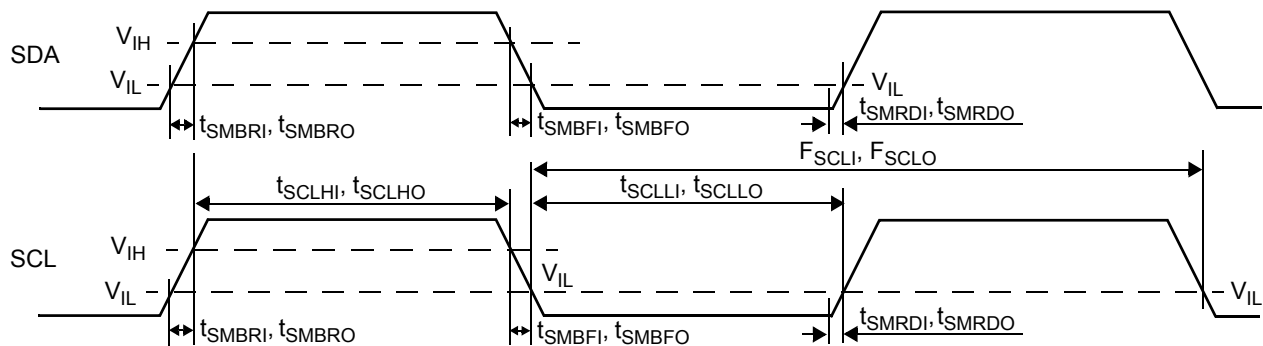
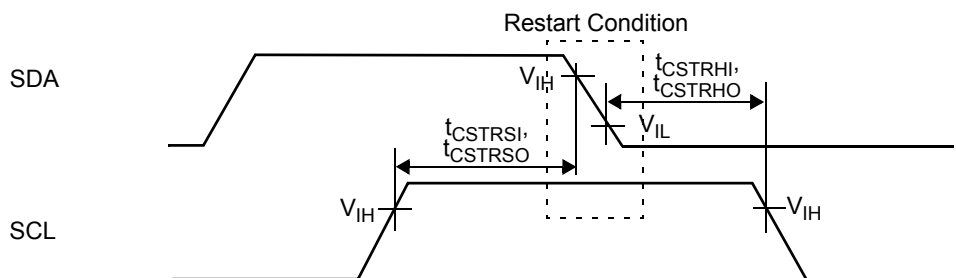

Figure 7. I2C Signal (SDA and SCL) Timing
Figure 10. I2C Restart Condition Timing
- In the preceding table and in Figure 7 through Figure 10, an “O” is added to parameter names for output signals and an “I” for input signals.